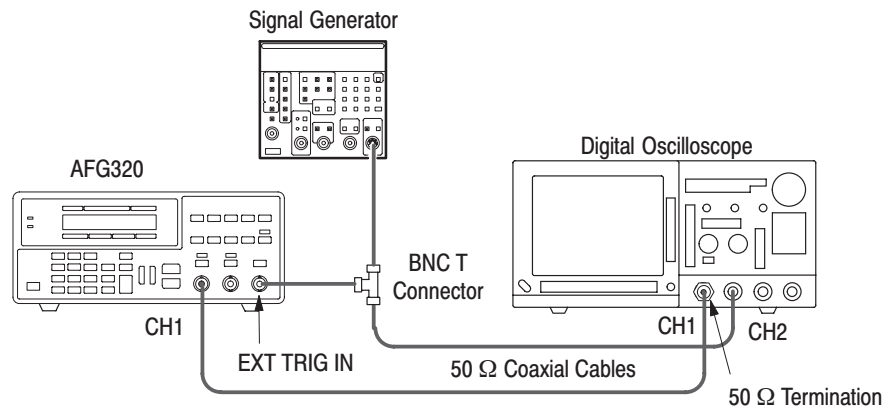

Figure B-4: Initial Test Hookup
Refer to Table B-10 and Figure B-4 for test requirements and connections.
1. Use a 50 Ω coaxial cable to connect the CH1 output of function generator to a 50 Ω terminator on the CH1 input of the digital oscilloscope. See Figure B-4.